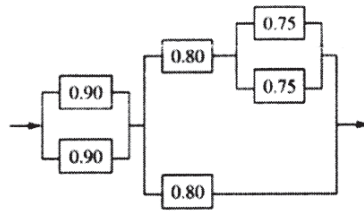

Fig.1
c) Determine the system reliability of the system shown in fig 1. [7]